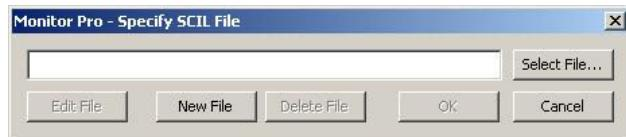

Figure 219: Specifying a SCIL file
3. The **Specify SCIL File** dialog is displayed, see Figure 219.